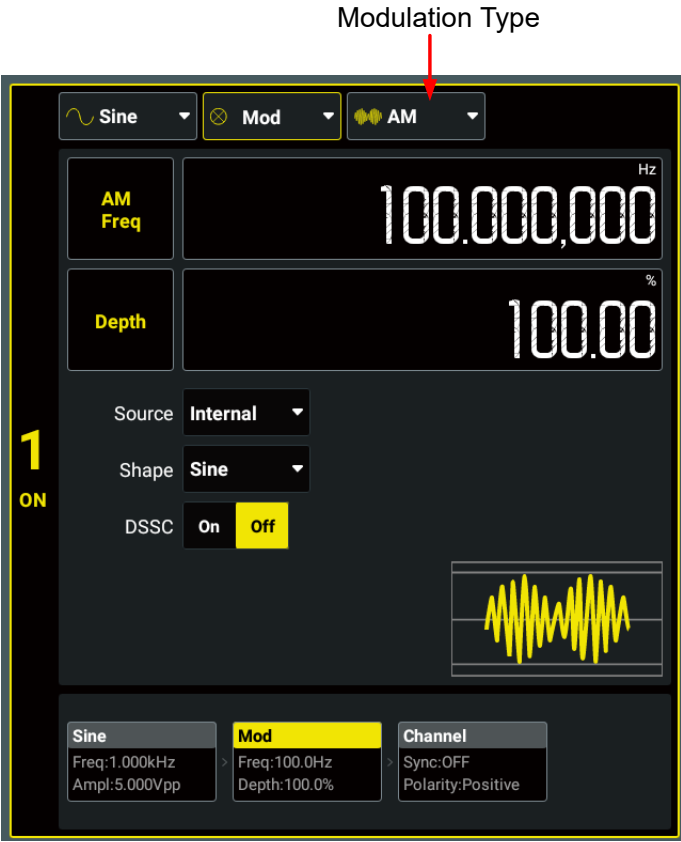

Figure 6.1 Modulation Setting Interface
6.1 Amplitude Modulation (AM)
In Amplitude Modulation (AM), a modulated waveform consists of a carrier waveform and a modulating waveform. The amplitude of the carrier waveform is varied by the instantaneous voltage of the modulating waveform. In the "Modulation Setting Interface" (Figure 6.1), click or tap the "Modulation Type" drop-down button to select "AM" and set its parameters.
6.2 Frequency Modulation (FM)
In Frequency Modulation (FM), a modulated waveform consists of a carrier waveform and a modulating waveform. The frequency of the carrier waveform is varied by the instantaneous voltage of the modulating waveform. In the "Modulation Setting Interface" (Figure 6.1), click or tap the "Modulation Type" drop-down button to select "FM" and set its parameters.
Interface" (Figure 6.1), click or tap the "Modulation Type" drop-down button to select "PM" and set its parameters.
With Amplitude Shift Keying (ASK), you can configure the instrument to "shift" its output amplitude between two preset values (called the "carrier amplitude" and the "modulation amplitude"). In the "Modulation Setting Interface" (Figure 6.1), click or tap the "Modulation Type" drop-down button to select "ASK" and set its parameters.